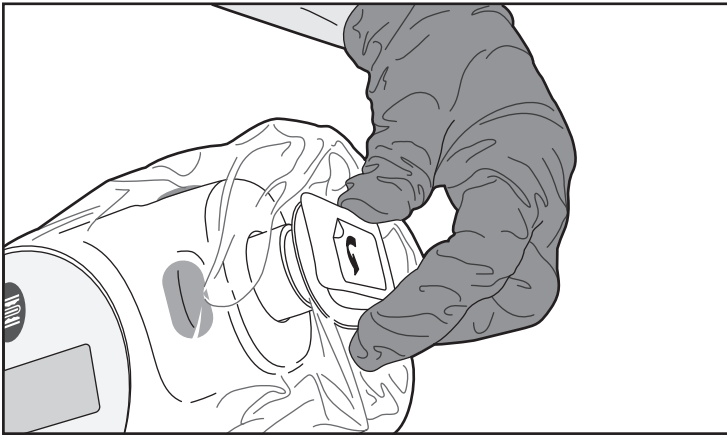
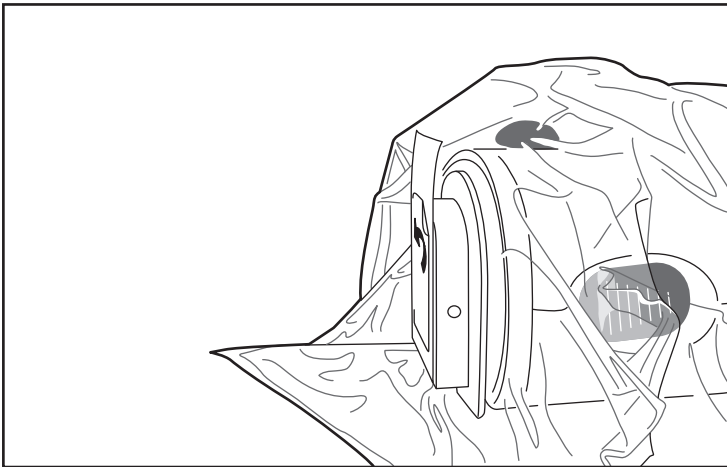

Figure 7. Attaching the Faceplate
Figure 8. Attached Faceplate
8. To attach the bag to the MDU5 PLUS, the sterile operator should align the bag’s faceplate with the nose of the MDU5 PLUS (Figure 7), and gently push to secure the connection. Do not trap material between the faceplate and the nose. Extra bag material around and beyond the connection is normal (Figure 8).